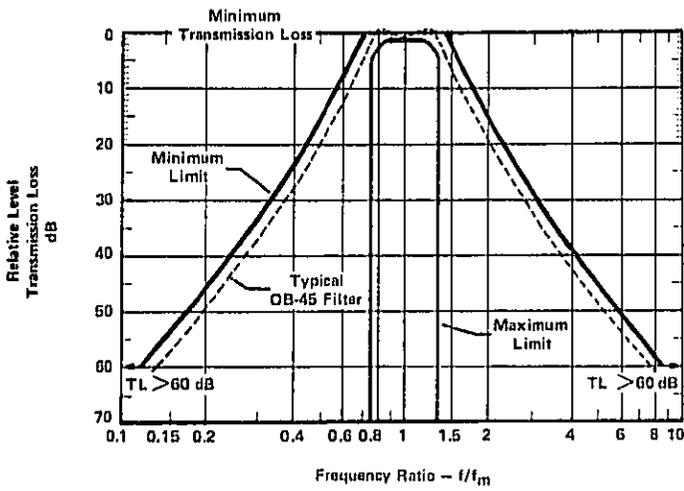

Figure 11. Normalized Amplitude Response - Octave Band Filter Class II
The OB-45 is a Class II Octave Band Filter set conforming to ANSI S1.11-1971 specifications. The normalized passband characteristics of the filters are depicted in Figure 11.
3. Move the WEIGHTING selector to EXT to engage the OB-45. The meter reading should still be almost +10 but may be as much as 0.5 dB lower than full scale because of the contour of the filter in the bandpass zone (see Figure 11).
4. Next move the FREQUENCY selector to 2 KHz and then to 500 Hz. In both positions the meter reading should drop 18 to 19 dB (see Figure 11).